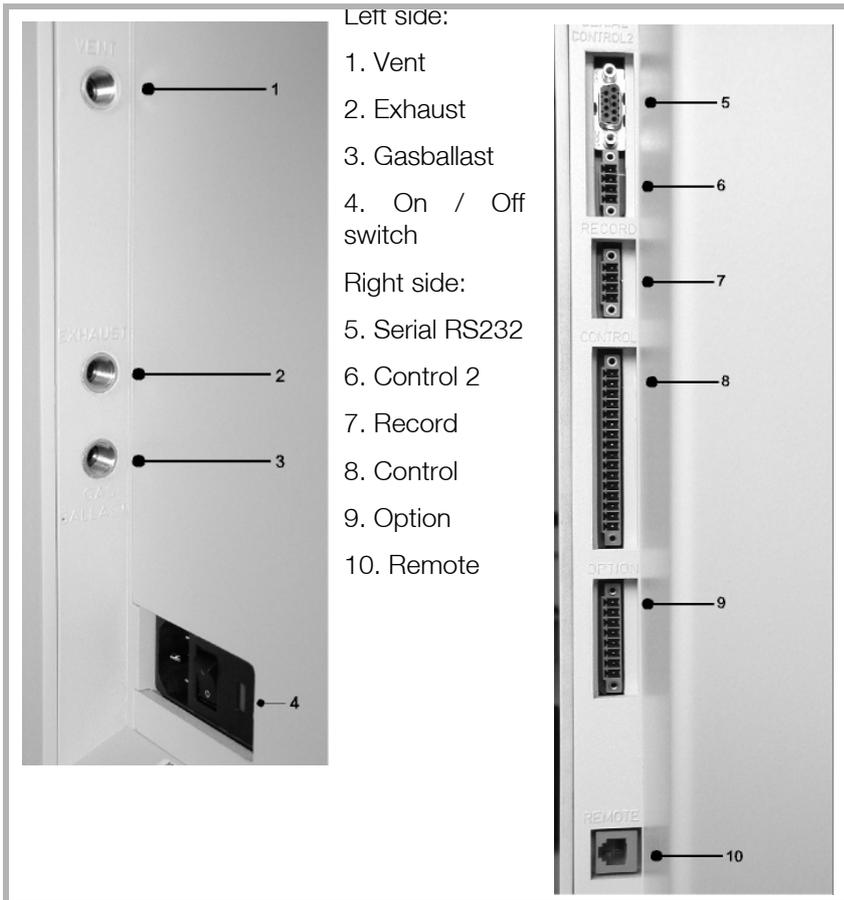

Fig. 3 Side views of the PhoenixXL
The mains voltage rating for the PhoenixXL can be read off from the name plate beneath the mains socket Fig. 3/4 at the side. This voltage is fixed and can not be changed.
The mains voltage is applied to the instrument via the detachable mains cable which is supplied with the instrument. A mains socket Fig. 3/4 is available for this purpose at the side of the instrument.
The sniffer line SL300 or the partial flow system may be connected to the option port (Fig. 3/9):
The following relay outputs Fig. 3/8 are available for further signal processing. The maximum rating for the relay contacts is 60V AC/1A.
These inputs Fig. 3/6 are working only, if the correct location of control is chosen. See chapter 6.6.4.1
The recorder output Fig. 3/7 may be used to chart the leak rate, the inlet pressure and the forevacuum pressure. Both recorder activities can be adjusted individually for showing leak rates and pressures.
This RS232 interface Fig. 3/5 is wired as data communication equipment (DCE) and permits the connection of a personal computer (PC) for monitoring and data logging. The connection is made through a 9 pin sub-D socket. For more information refer to chapter 6.6.4.3 and the Interface Description.
The remote control interface Fig. 3/10 is a serial interface to control the PhoeniXL by the remote control. The remote control can be connected via an extension cable with a RJ45 plug. Refer to the Interface Description for more information. The remote control does not belong to the standard equipment.
The exhaust Fig. 3/2 flange is located on the side of the PhoeniXL.
Usually the parts under test are vented with ambient air when the test is finished. If it is required the parts can be vented with a different gas (i. e. fresh air, dry air, nitrogen, ...) at atmospheric pressure. In this case a vent hose has to be connected to the hose coupling Fig. 3/1.
For the mode gas ballast it is recommended to use helium-free gases at atmospheric pressure. Ambient air can be contaminated with helium due to spraying or charging. In this case a gas supply line (i. e. nitrogen, fresh air, ...) should be connected to the hose coupling Fig. 3/3. The pressure
The connector 1,2 and 3 in Fig. 3 are quick connectors for hose diameters of 8/6 mm.